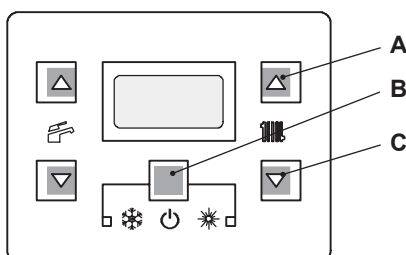

Figure 9.5
- 1 To enter in the parameters setting mode press sequentially the 3 keys "B - C - A" (Figure 9.5) and hold in for 10 second until the display shows Figure 9.6.
To reset the boiler to the normal operation press contemporary the 3 keys ("A - B - C" Figure 9.5) for 10 second. The following table gives details of each parameter and the possible value that can be set.